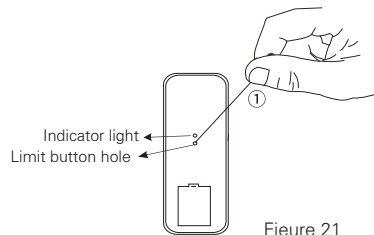

Figure 21
b. Use a small paper clip or small round needle to insert the electronic positioning setting key hole of the elevator on the back of the remote control (as shown in Figure 21, press the electronic positioning setting key of the elevator, the red and blue LEDs will light up, and then press the elevator Rack down button, at this time after the lifting frame is lowered to a suitable position, press the stop button of the remote control as shown in Figure 22, and then press the electronic positioning setting button of the lifting button, the red and blue light-emitting diodes are off, and the lifting frame moves up and down. The electronic lower limit setting of the lifting frame is completed.